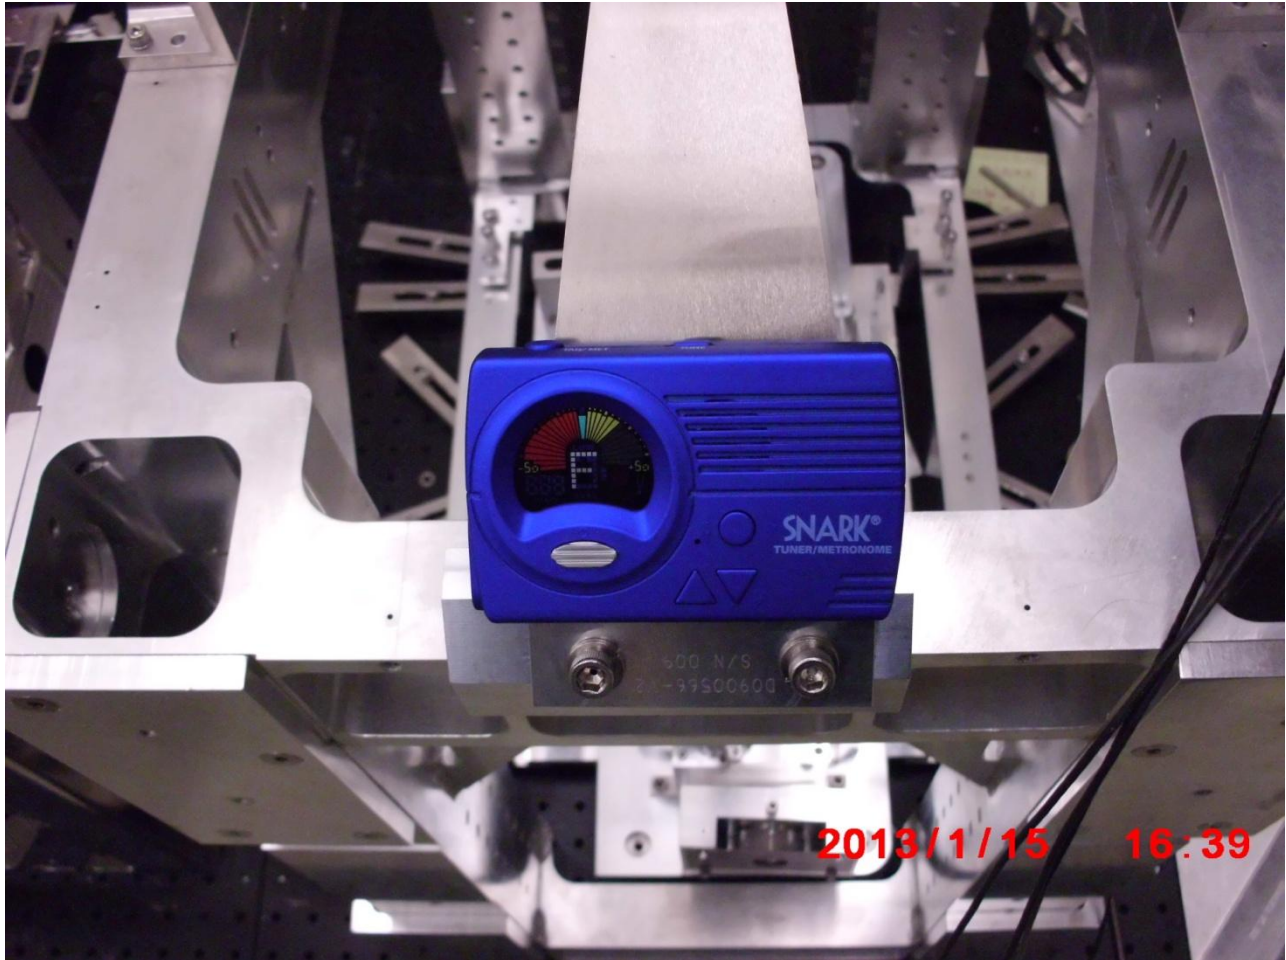

Figure 23: Guitar Tuner Placed at Base of Blade Spring
1. Place the guitar tuner against the base of the blade spring, as shown in Figure 23, so that it will pick up the sound of the suspension wire when strummed.